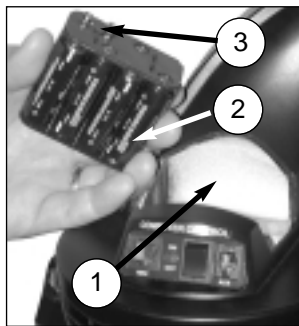

Fig. 10: Insert eight AA-size batteries inside the battery compartment:
13. **Insert batteries:** The telescope's battery compartment (**1, Fig. 10**) is located on top of the drive base. Open the battery compartment by lifting the cover and pulling it away from the drive base.